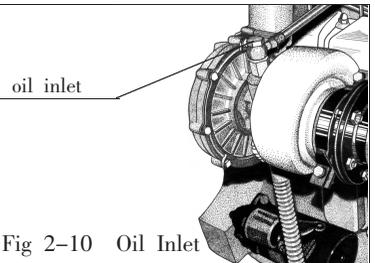

Fig 2-10 Oil Inlet
3.1.7 For a new, or repaired turbocharged diesel engine or a turbocharged diesel engine stored for a long time, loosen oil inlet of turbocharger, add a little oil, tighten the screw, and then start the engine (see Fig 2-10).